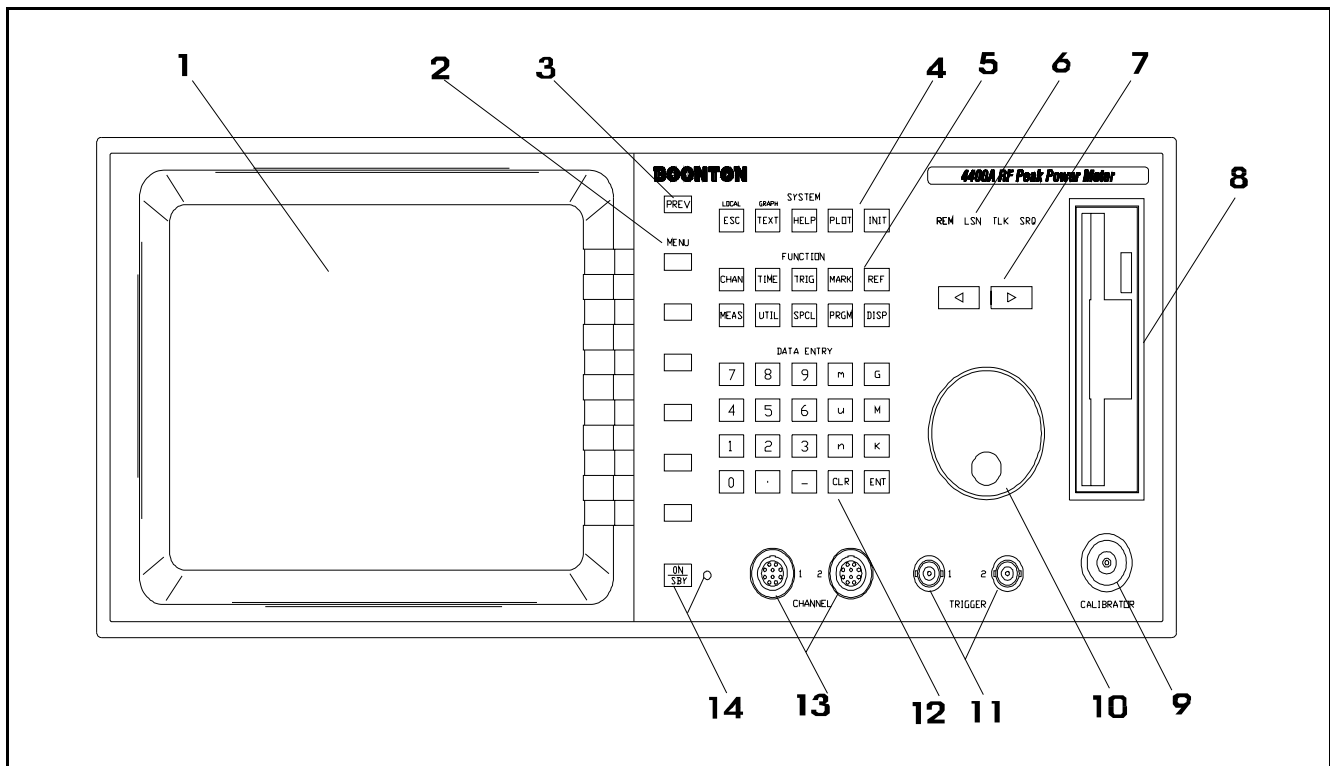
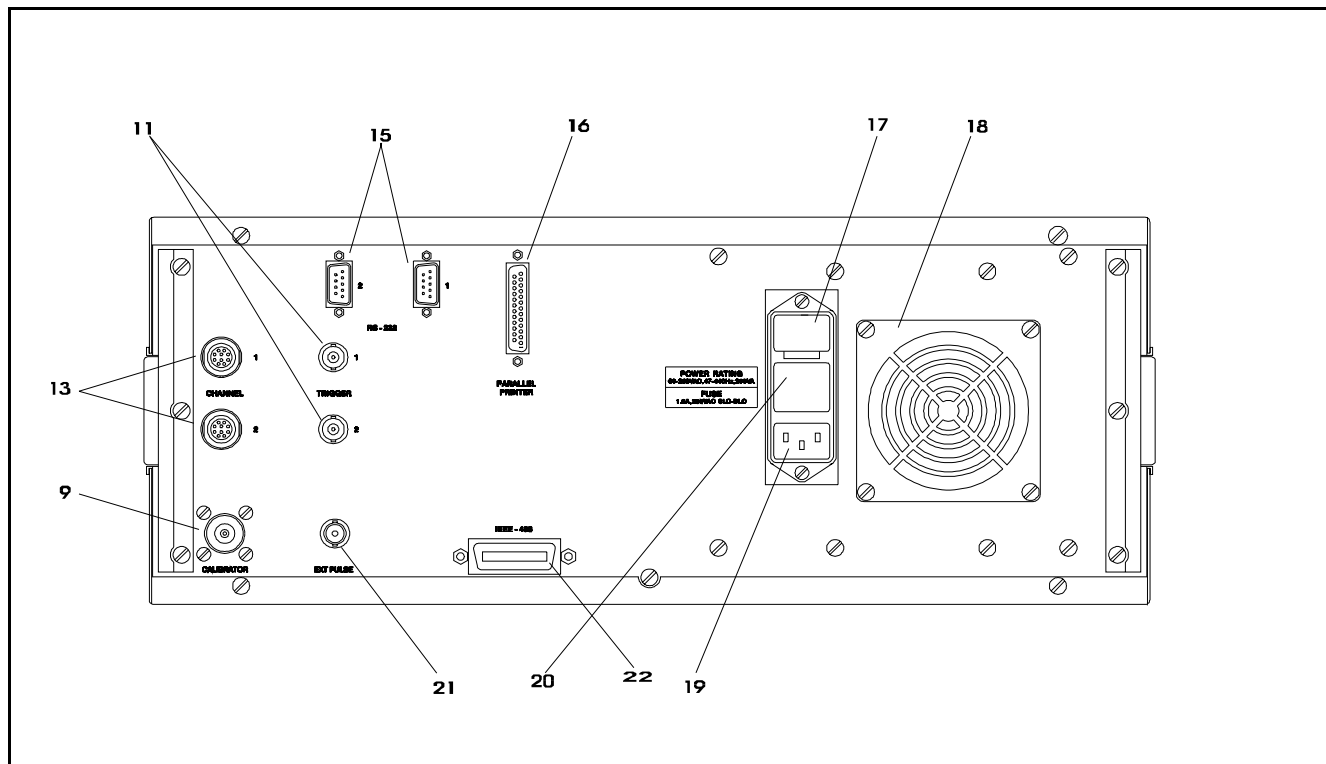

Figure 3-1. Standard Model 4500A RF Peak Power Meter Analyzer - Front Panel
Figure 3-2. Model 4400A/4500A - Rear Panel
Connect the power cord supplied with the instrument to the power receptacle on the rear panel. See Figure 3-2.
7. Verify that the Instrument Serial Number matches the number on the rear panel label adjacent to the power connector assembly. See Figure 3-2.
Figures 3-1 and 3-2 illustrate the controls, indicators and connectors on the front and rear panels, respectively, of the standard instrument. Refer to Table 3-1 for a description of each of the illustrated items. Connectors indicated by an asterisk (\*) may be front or rear-mounted, depending on the option selected. The function and operation of all controls, indicators and connectors are the same on the standard and optional models.
1. If the main power is off, press the power switch located on the rear panel. See Figure 3-2. If the ON/SBY indicator LED on the front panel is off, press the ON/SBY key. See Figure 3-1.